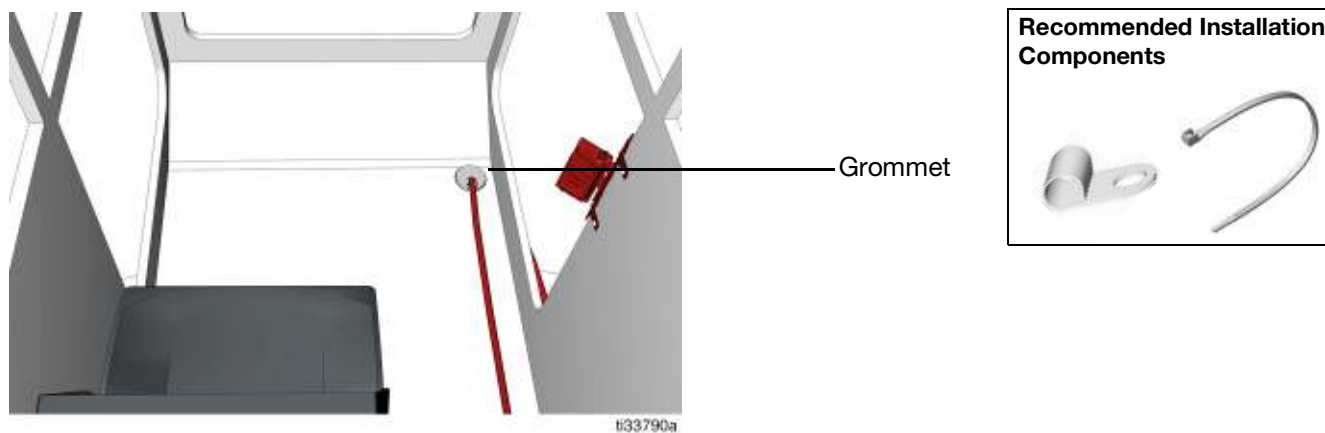

FIG. 16
1. Route the power cable from the pump through the body of the machine and under the cab to protect it from the environment, and to aid in wiring into the cab. For installations using a proximity switch and a controller, route the prox cable along the same path as the power cable (FIG. 16).
2. Route the power cable into the cab through the rubber grommet located under the floor mat (FIG. 16).